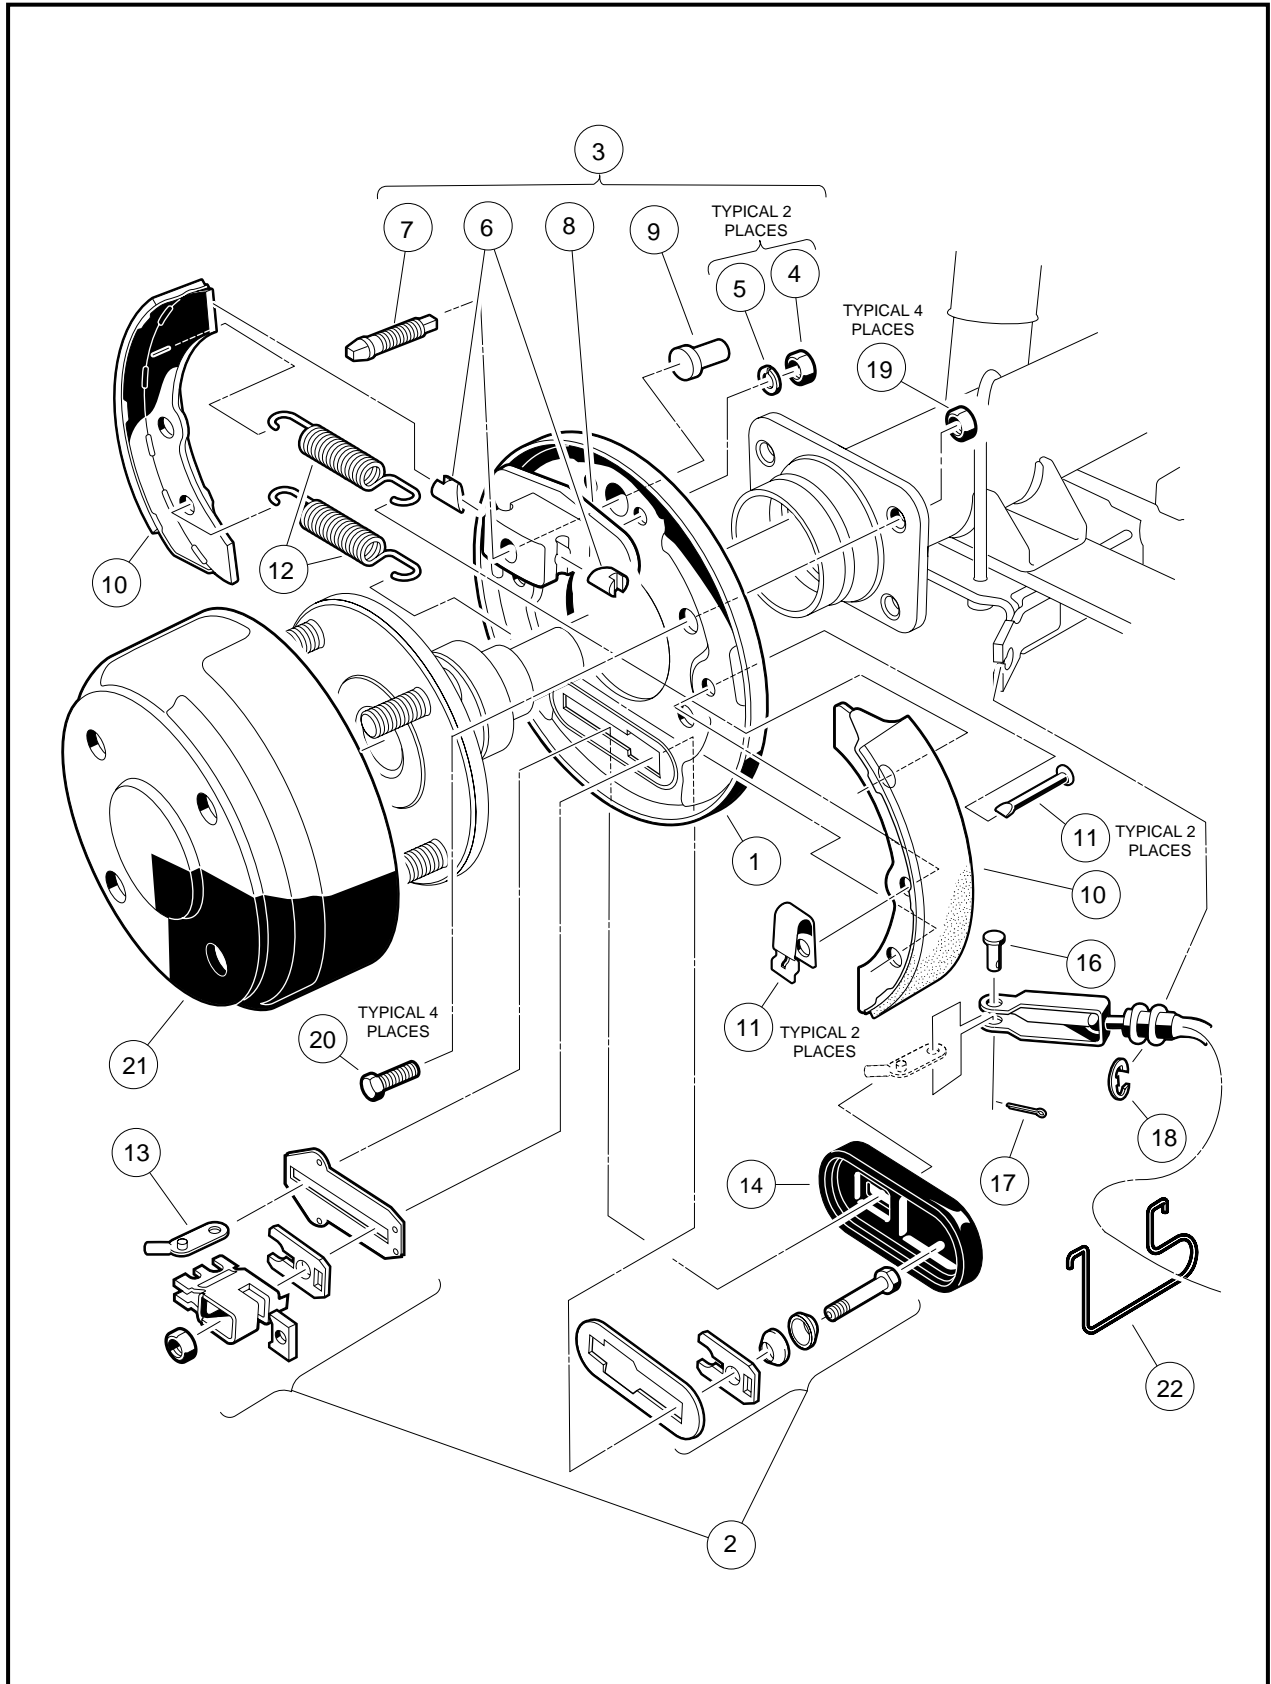

Figure 6-14 Rear Manually Adjusted Brake Assembly
3. Attach the springs (with hooks pointing outwards) onto the shoe already installed. Then hold the other shoe next to it, correctly oriented, and attach the springs to it (**Figure 6-14, Page 6-7**).
5. Remove cotter pin (17) and clevis pin (16) from brake cable (**Figure 6-14, Page 6-7**).
6. Remove 4 bolts (20) and cone lock nuts (19) that mount the brake assembly to the transaxle (**Figure 6-14, Page 6-7**).
2. Be sure bolts (20) and **new** cone lock nuts (19) are used to mount the brake assembly (**Figure 6-14, Page 6-7**).